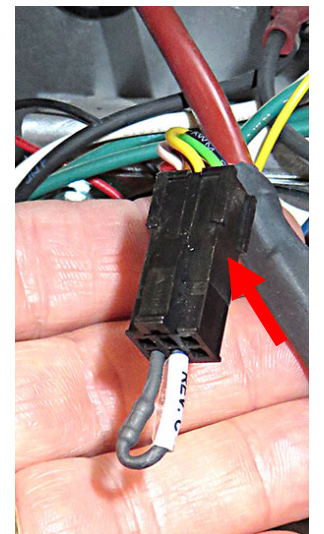

Figure 17
21. The OQS harness has two (2) connectors; a female and male. Connect the 6-pin 8074552 terminator to the female connector (see Figure 17).